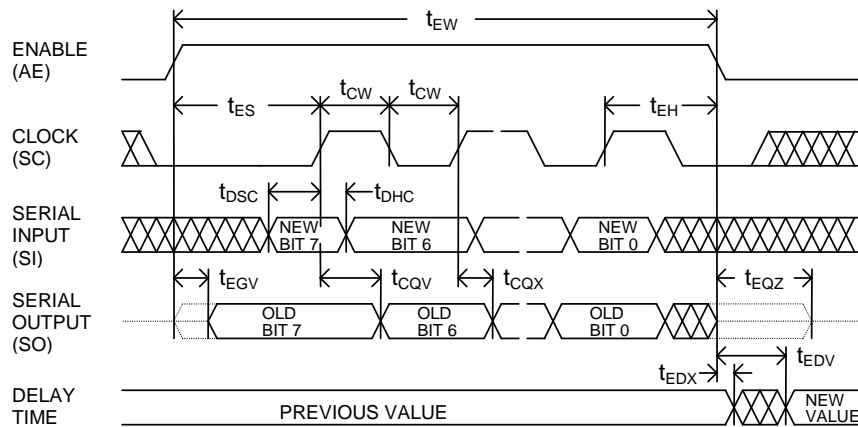

Figure 4: Serial mode (MD=0)
While observing data setup (t_{DSC}) and data hold (t_{DHC}) requirements, timing data is loaded in MSB-to-LSB order by the rising edge of the clock (SC) while the enable (AE) is high, as shown in Figure 4. The falling edge of the enable (AE) activates the new delay value which is reflected at the output after a settling time t_{EDV} . As data is shifted into the serial data input (SI), the previous contents of the 8-bit input register are shifted out of the serial output port pin (SO) in MSB-to-LSB